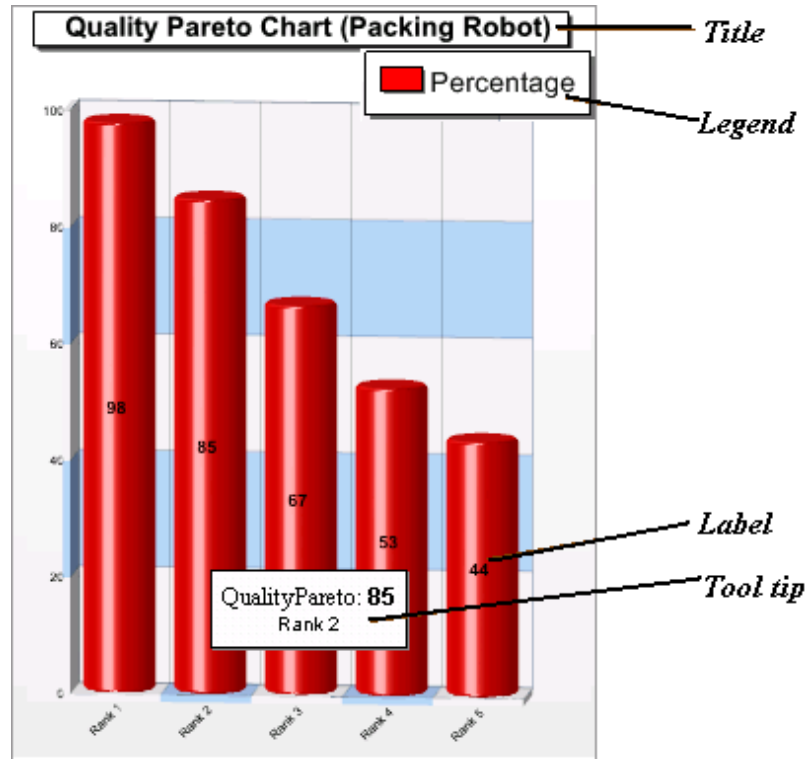

Figure 8.28 - Hidden Extras in a Chart
- **Titles, legends, labels, and tool tips** explain graphical information in charts, like the one shown in Figure 8.28